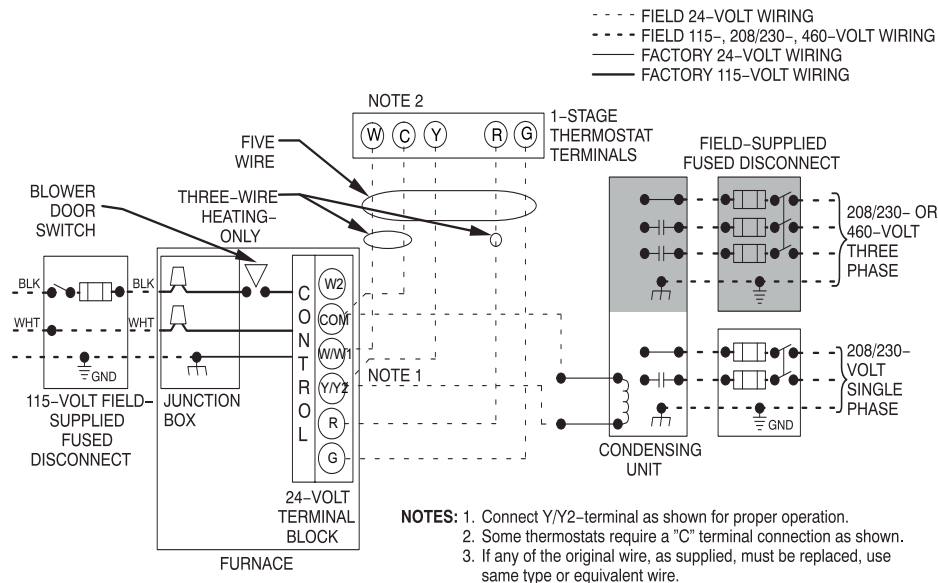

Fig. 33 – Typical Field Wiring Diagram
See Fig. 33 for field wiring diagram showing typical field 115V wiring. Check all factory and field electrical connections for tightness.
6. Connect power cord power and neutral leads to furnace power leads as shown in Fig. 33.
5. Connect field power and neutral leads to furnace power leads. as shown in Fig. 33.
Make field 24V connections at the 24V terminal strip, see Fig. 38. Connect terminal Y/Y2 as shown in Fig. 33 for proper cooling operation. Use only AWG No. 18, color-coded, copper thermostat wire.